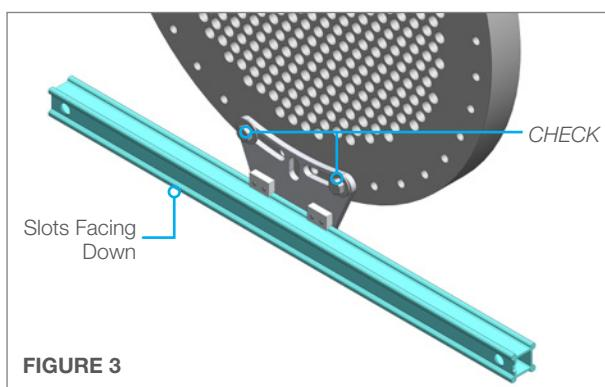

FIGURE 3
3. Loosen the **Rail Clamp Tensioner** on the bottom **Positioner Clamp** and insert the **Lower Rail with the slots facing down**, into the lower rail clamps. It is not critical that this rail is aligned as precisely as the top rail, but it should be close to parallel with the top rail for best performance. Tighten the **Rail Clamp Tensioner** securing the rail to the **Positioner Clamp**. Check Rail Clamp bolts to ensure they are secured to the tube bundle flange. (**Figure 3**)